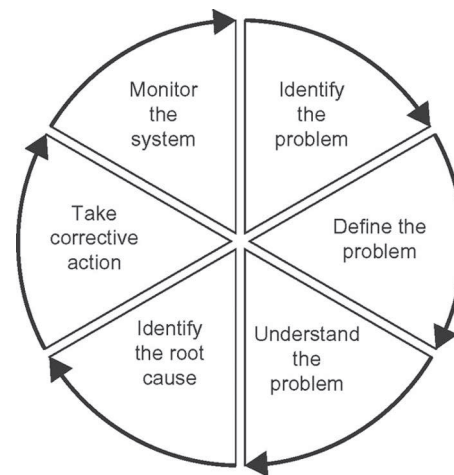

Figure 2.4 RCA process.
6. Ensure effectiveness (Figure 2.4).